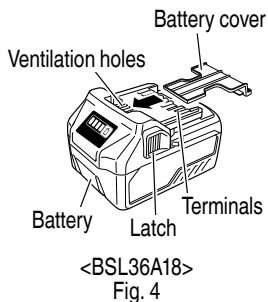

Fig. 4
- Either install the battery in the power tool or store by securely pressing into the battery cover until the ventilation holes are concealed to prevent short-circuits (See Fig. 4).